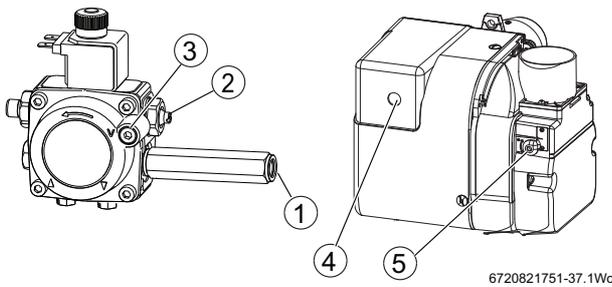

Fig. 39
When the oil reaches the pump, bleed the air from the pump as follows, refer to figure 39:
Refer to figure 39
- ▶ Check the CO₂ levels and adjust the air shutter (refer to figure 39 item [5]) setting according to tables 13 & 14 on page 32.
If the flue gas temperature is too high and the baffles are correctly fitted, then reduce the oil pump pressure (refer to figure 39 item [2]) 5-10 p.s.i. (0.35 - 0.67 bar) to compensate for nozzle variations.
- ▶ Replace the bleed/oil pressure port blanking plug (refer to figure 39 item [1]).